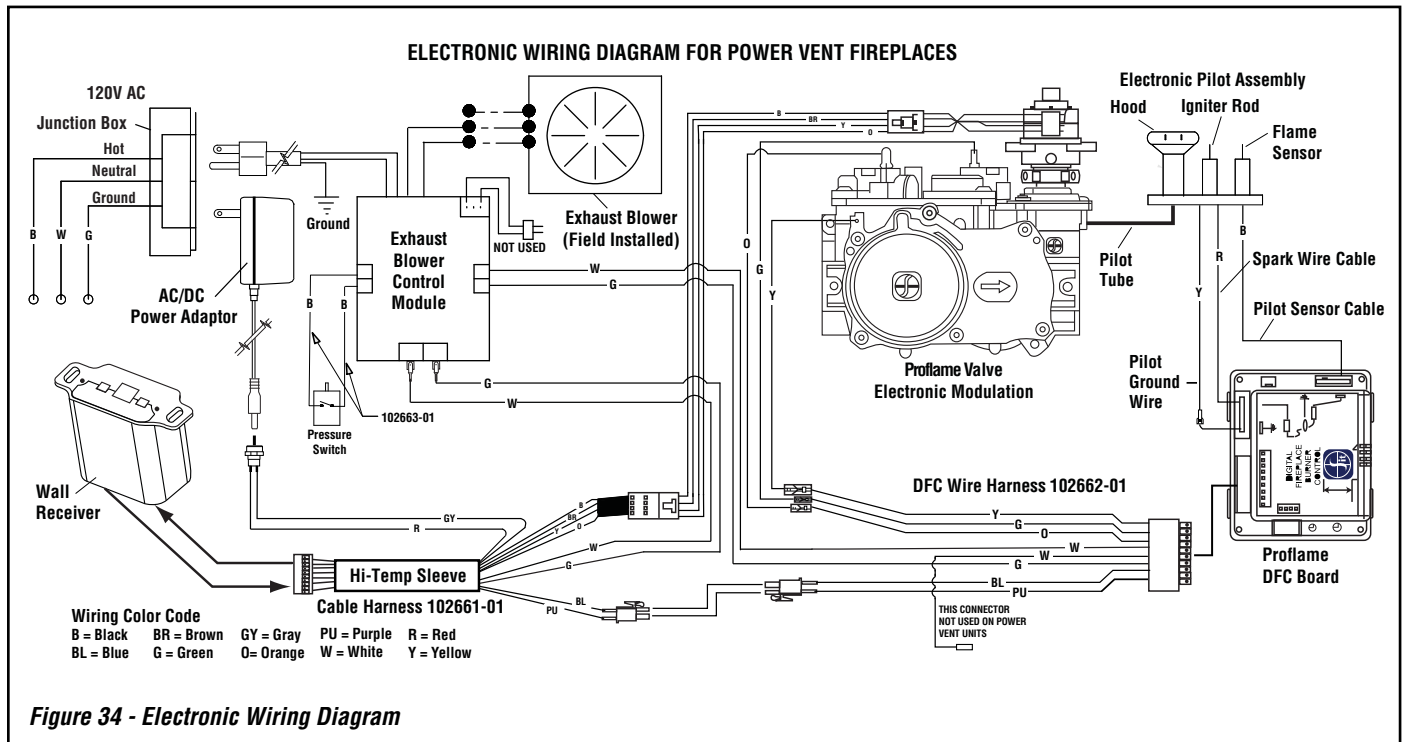

Figure 34 - Electronic Wiring Diagram
CAUTION: Ground supply lead must be connected to the wire attached to the green ground screw located on the outlet box. See *Figures 34 and 35 on Page 25*. Failure to do so will result in a potential safety hazard. The appliance must be electrically grounded in accordance with local codes or, in the absence of local codes, the National Electrical Code, ANSI/NFPA 70-latest edition (In Canada, the current CSA C22.1 Canadian Electrical Code).
Wiring: Fireplace (See Figures 34 and 35 on Page 25)
- Refer to Figure 34 on Page 25 and install the electrical hardware on the fireplace end of the Romex wiring. Male terminals (#10) on the Black and White wires, and ring terminals (#9) on the ground wire. The termination end of the Romex will be connected to the termination with wire nuts (not provided).